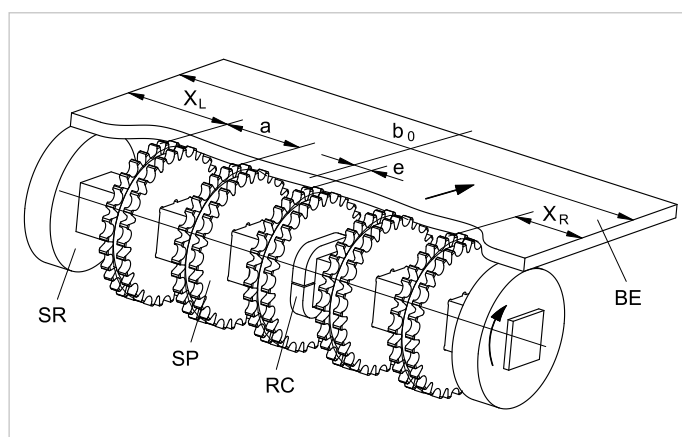

Figure 390
### Support edge rollers (SR) (Fig. 390)